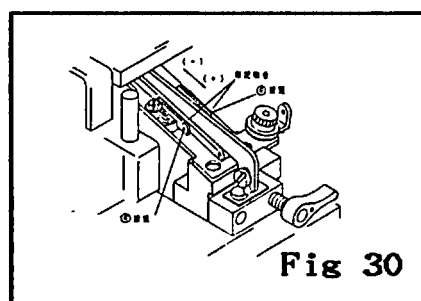

Fig 30
To adjust: loosen the screw (1), then turn the Looper Thread Cam (2). (Fig 30)